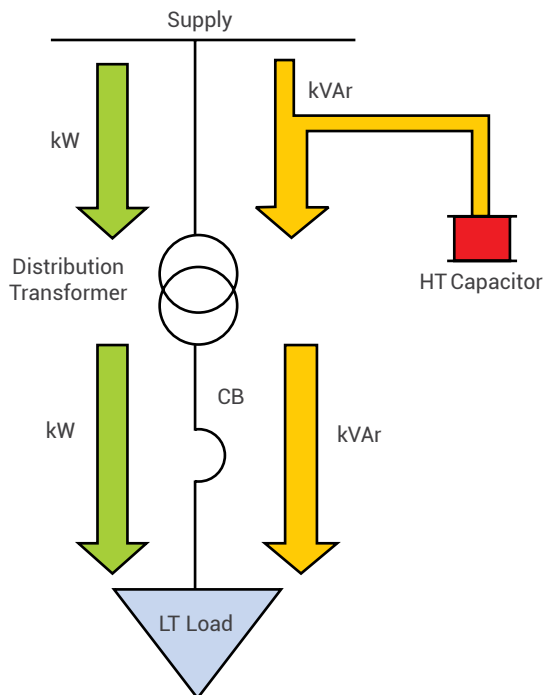
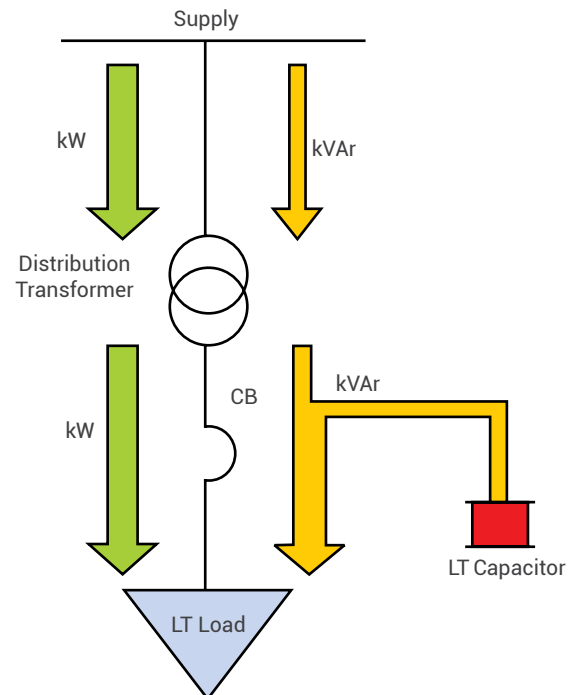

Fig 1: Compensation on HT Side
Fig 2: Compensation on LT Side
the load to meet its magnetic field requirements. The reactive power (inductive) is always 90° lagging with respect to active power as shown in figure 1. Figure 2 & 3 show the flow of kW, kVAr and kVA in a network.
- › Higher kVA demand from supply system as given in figure 2
Consider two cases with compensation provided on HT and LT side respectively as shown in figure 1 and 2.
As seen in fig 1, with the capacitor connected on the HT side, the compensated reactive power flow through the transformer does not reduce and hence there is no change in current flow. Although the HT side power factor is improved, the LT
side power factor remains same. However, as seen in fig 2, connecting capacitor on LT side reduces the reactive power flow through the transformer and we get improved power factor and reduced current flow on both LT and HT sides.